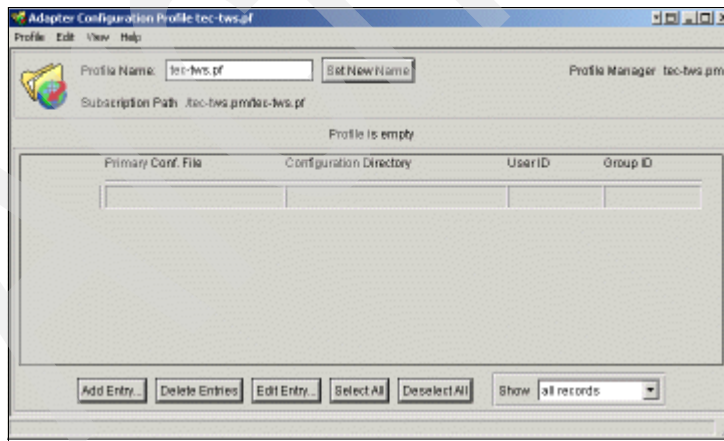

Figure 8-35 Adding a TEC logfile adapter to the Adapter Configuration Profile
14. Double-click the new ACP profile icon. The Adapter Configuration Profile window displays as shown in Figure 8-35.